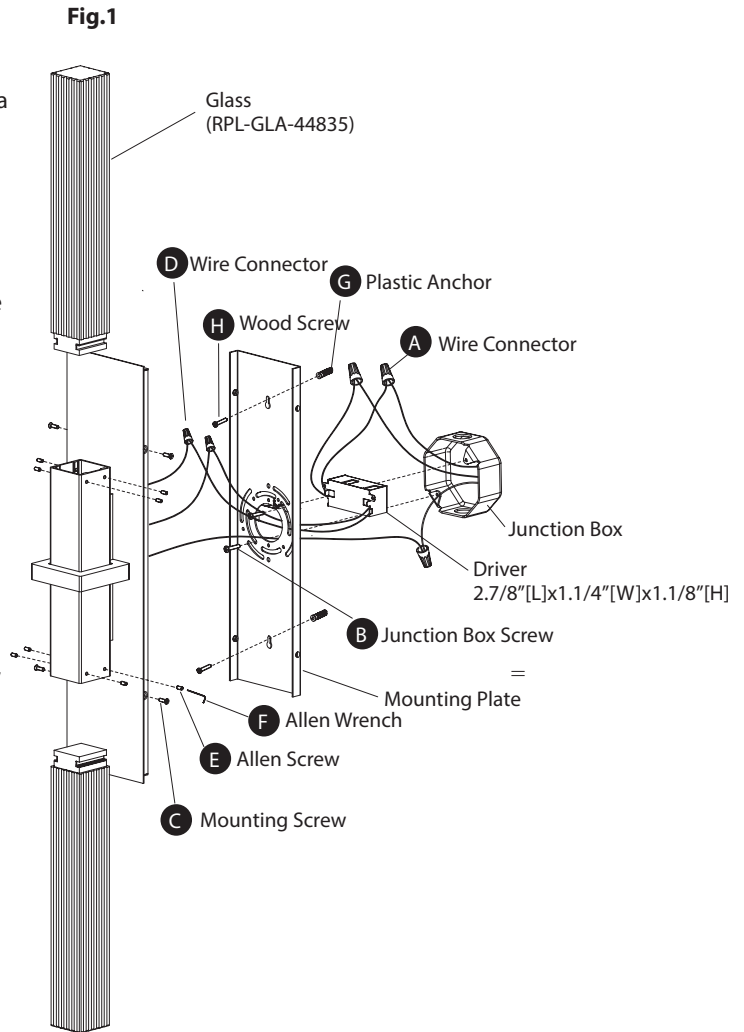

Fig. 2 Wiring
CONNECTING THE WIRES (Fig. 2)
3. Remove the mounting screw (C) from the mounting back plate.
4. Drill holes in the wall aligned with the key holes located in the mounting back plate, insert the plastic anchors (G).
5. Connect the Driver's input wires to junction box wires as shown in Fig. 2, making sure that all wire connectors (A) are secured. If your outlet box has a green or bare copper ground wire, connect the fixture's ground wire directly to the back plate using the green screw provided. After wires are connected, tuck them carefully inside the junction box.
6. Secure the mounting back plate to the junction box using junction box screws (B), fasten it to the wall using wood screw (H). The side of the mounting back plate marked "GND" must face out.
7. Connect the driver's output wires to the fixture as shown in Fig.2, making sure that all wire connectors (D) are secured.
8. Secure the fixture to the mounting back plate using the mounting screw (C).
9. Insert the crystal into the fixture, secure it with Allen screw (E) using Allen wrench(F).